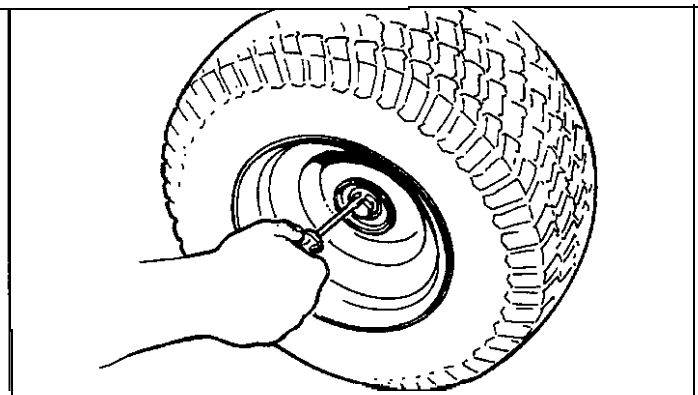

Figure 18. Rear Wheel Removal
6. Remove e-ring using a screwdriver (see Figure 18).